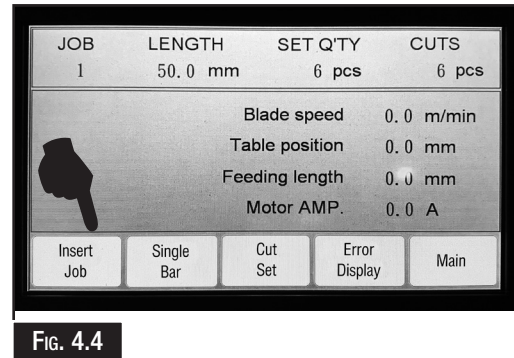

FIG. 4.4
1. **Insert Job:** Allows the operator to insert a program into the current job on the machine ( Fig. 4.4)